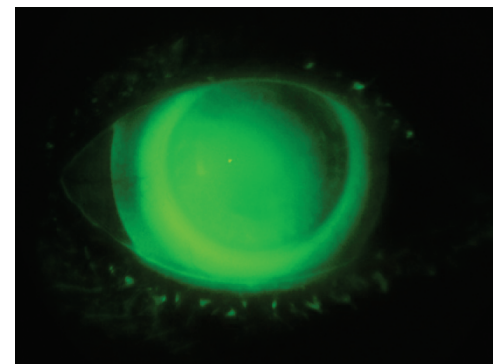

Figure 2
4. Next, observe the lens fit with a diffuse cobalt light and Wratten filter. The lens should completely clear the cornea, including the limbus (Figure 2).